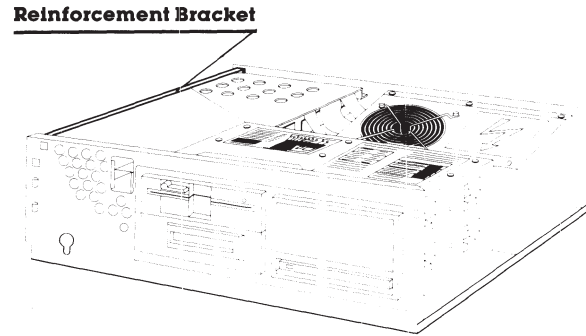

Figure 7-19. Location of the Reinforcement Bracket.
2. Locate and remove the reinforcement bracket by removing the rear screw first and then the front screw (Figure 7-19). This sequence prevents the reinforcement bracket from rotating.